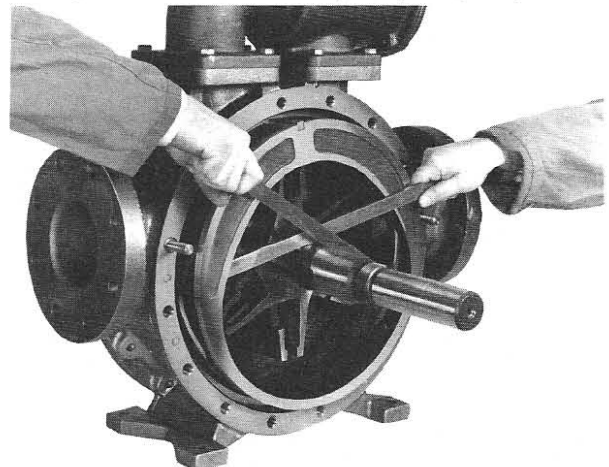

Figure 5 - Liner Removal
- a. Slide the bearing (24) out of the bearing cavity.
8. Remove the head capscrews (21) and head stud nuts (21C). Two jack screw holes are provided in the rim of the head to facilitate removal.
10. The disc (71) will come off with the head assembly and is attached with four (4) countersunk, allen-head machine screws (71A) and lockwashers (71B).
12. From the open side of the pump, grasp the rotor in the 3 and 9 o'clock positions, and gently pull the rotor and shaft (13) out of the head assembly remaining on the casing. **CAUTION:** Use care to avoid injury—the rotor and shaft is heavy and may have sharp edges.
14. Depending on the pump application, the liner (41) can be removed in two ways:
- a. If the pumpage is a clean, non-corrosive liquid, with low viscosity, the liner can usually be withdrawn from the casing by prying with two bars. Insert the tips of the bars into the port openings on either side of the liner, and partially remove the liner by prying against the rotor. Use a block under the bar, against the rotor, to bring the liner the rest of the way out (see Figure 5).